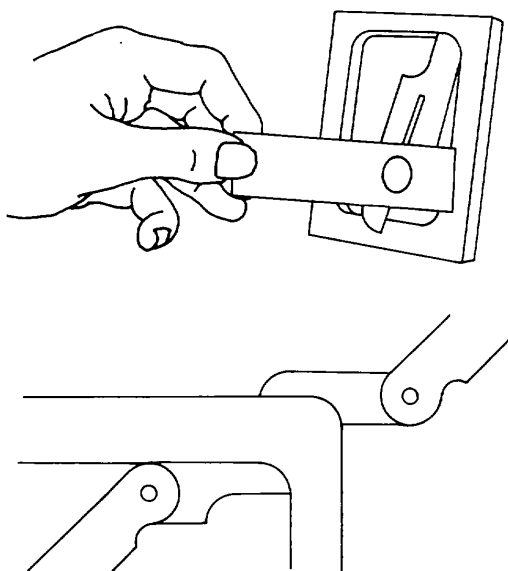

Figure 3-74. Using Fillet and Radius Gauges
b. Use. Fillet or radius gauges are used to check the inside or outside corners of a machined part, as shown in figure 3-74. These gauges can be used in any position and at any angle for both inside and outside radii.